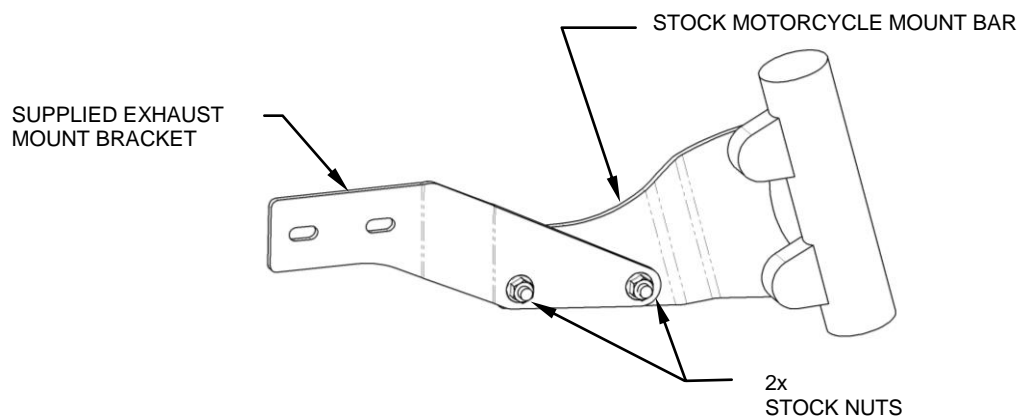

FIGURE 1
4. Remove the exhaust mount bracket from the box and mount it to the motorcycle mount bar using the stock nuts but **DO NOT TIGHTEN** at this time. (See figure 1)